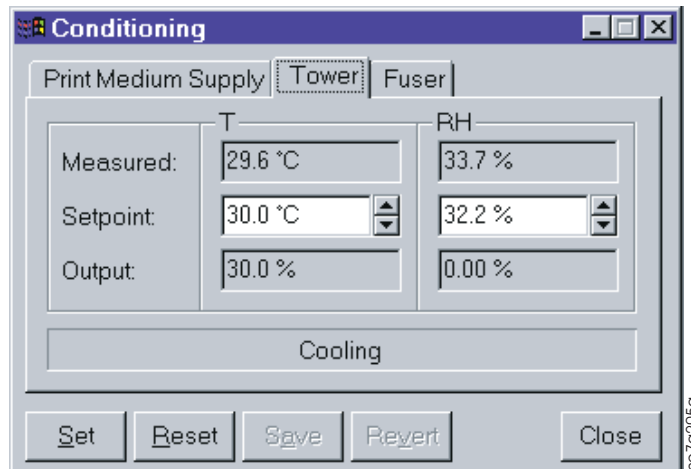

Figure 277. Conditioning Window
9. Check the **Measured humidity** in the **Print Medium and Engine Conditioning** window, as shown in Figure 277.